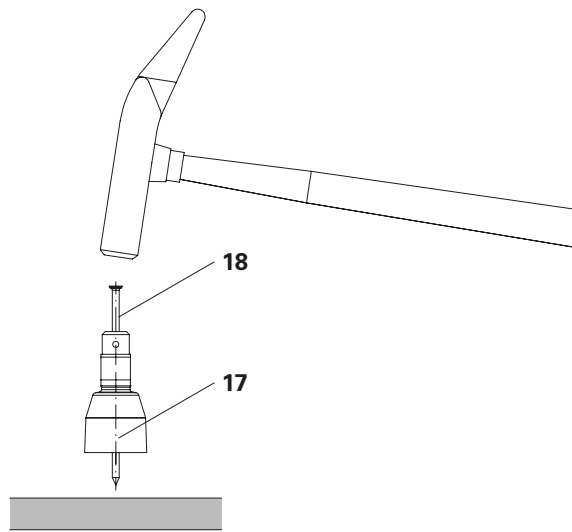

Fig. A5.02
3. Position Threaded Cone M24 40 mm (**17**) on the formlining and hammer in wire pin 4.6x130 mm all the way (**18**). (Fig. A5.02)